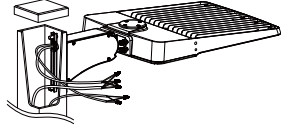

Figure 2-2
Step2: Fix the fixture on the pole after passing the input wire of the fixture through the pole, and then connect the input wires to the mains properly, Figure 2-2;